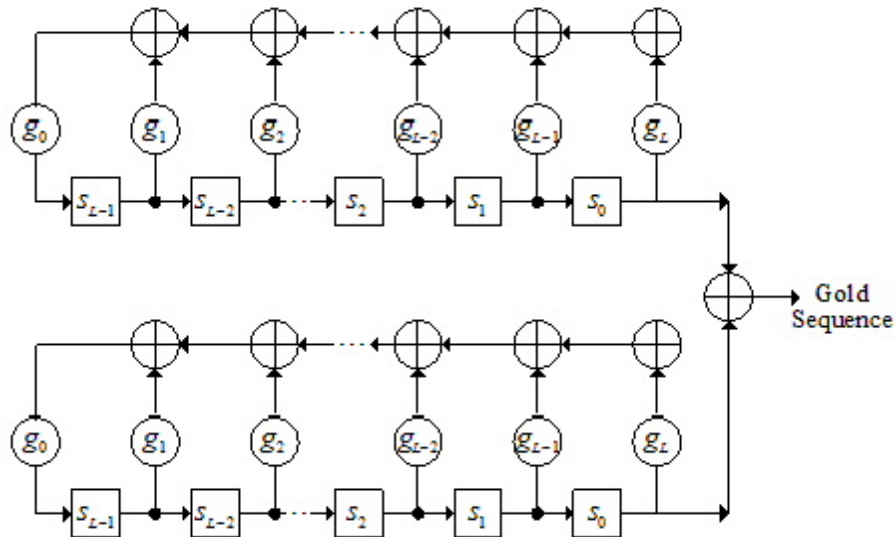

Fig. 1 Block diagram of Gold Sequence Generator
2. The Gold sequence can be generated by taking modulo-2 sum of two m-sequences with different offset in Galois field. Not all pairs of m-sequences do generate Gold sequence and those which generate Gold sequence are called *preferred pairs*. A typical LFSR structure used to be generate a family of Gold sequences is illustrated in Fig.1. For detailed description of LFSR, please refer to the **m-sequence Generator** model.